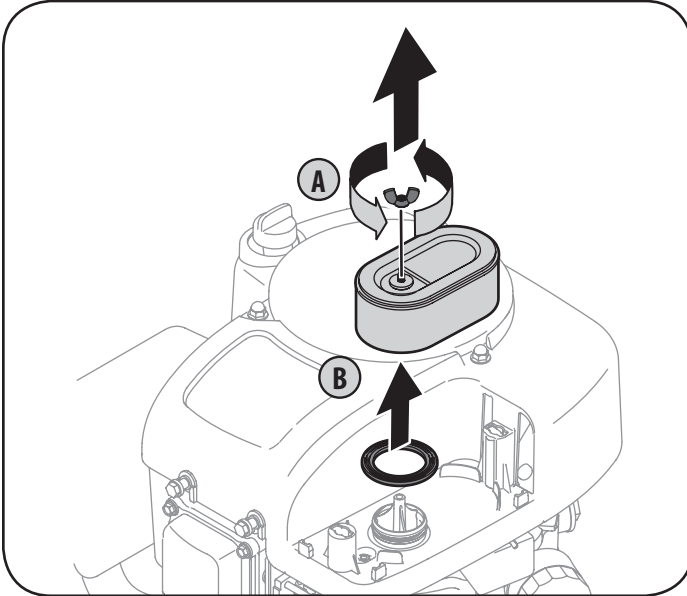

Figure 26
- Remove thumb screw (A). See Figure 26.
- Pull up and remove air filter and base seal (B). See Figure 26.